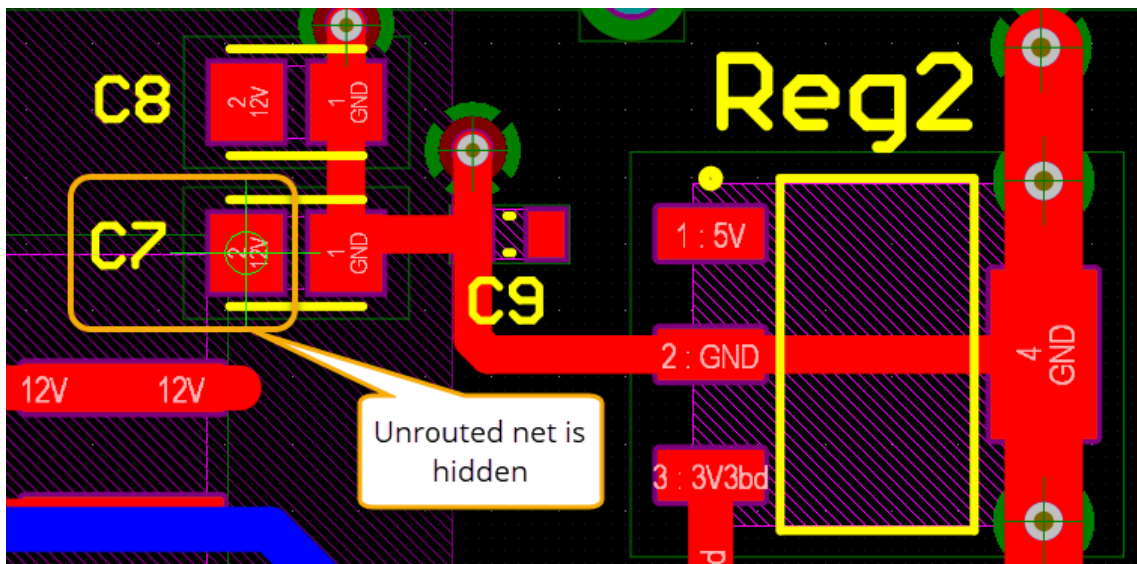

Figure 7. Unrouted 12V net is hidden
c) Click on Pad2: 12V to hide the unrouted 12V Net, Figure 7.